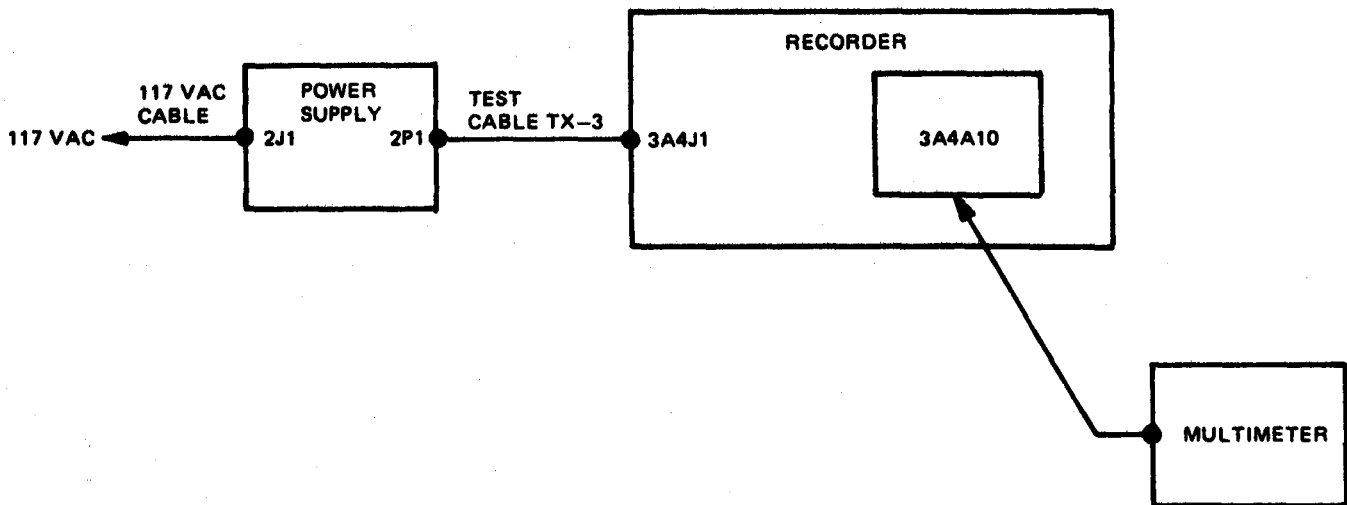

Figure 3-19. Reel Motor Circuit, Equipment Setup
- (1) Remove housing, refer to paragraph 3-25.
- (2) Connect equipment as shown in figure 3-19.